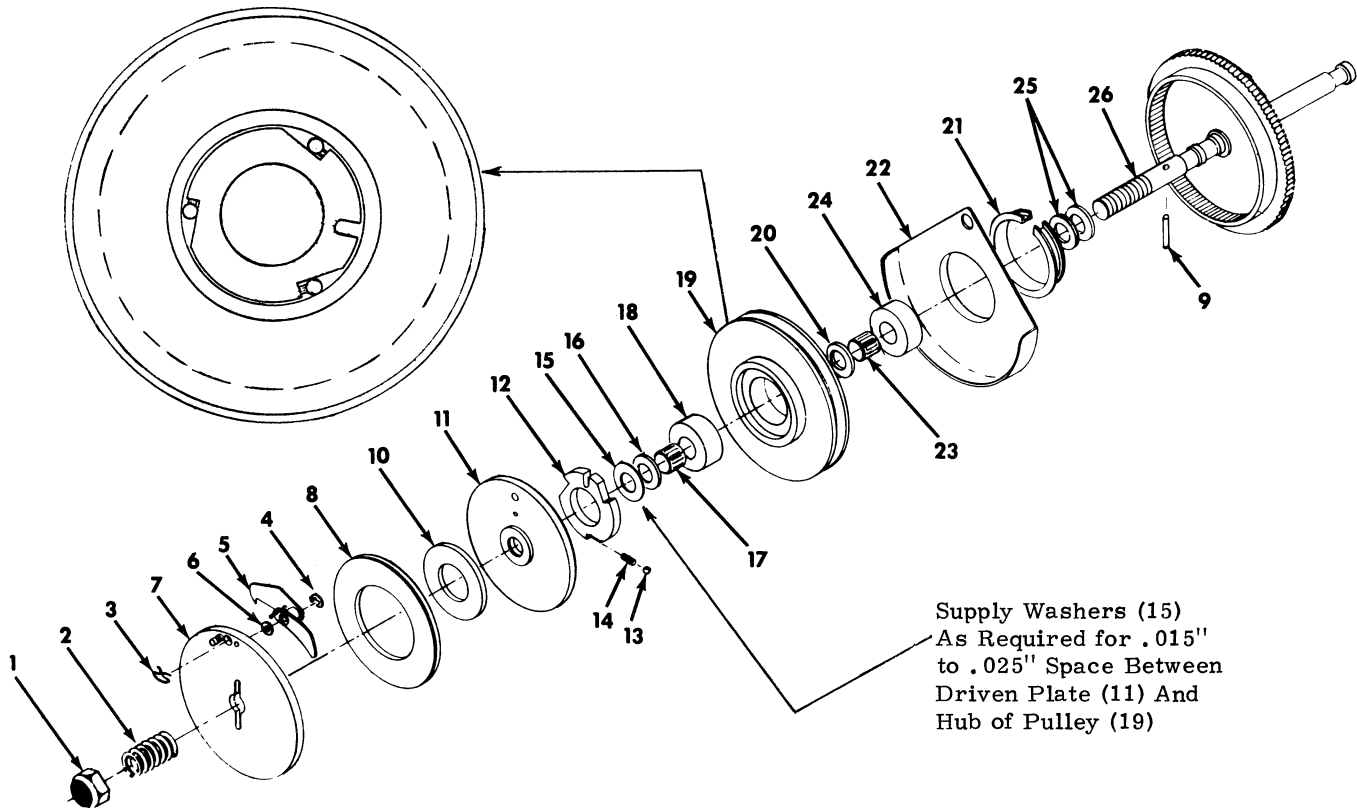

Figure 3-7. DISASSEMBLY AND REASSEMBLY OF FILM FEED CLUTCH ASSEMBLY
Disassembly of Film Feed Clutch (Figure 3-7)
Reassembly of Film Feed Clutch (Figure 3-7)
1. Apply one drop of Teresso Oil N-75 to Bearings (18) and (24) and mounting post for Pawl (5) and Toggle Spring (3).
2. Apply a very thin coat of DC44 lubricant to the slot in Driving Clutch Plate (7). DO NOT get this lubricant on the surface of the Plate.
3. Make sure Cam (12), Balls (13), Springs (14) and Pulley (19) are clean and free from dirt or grease. DO NOT lubricate these parts.
4. Assemble parts in reverse order of disassembly. (See insert on Figure 3-7 for orientation of Cam (12), Balls (13) and Springs (14). See note below.)